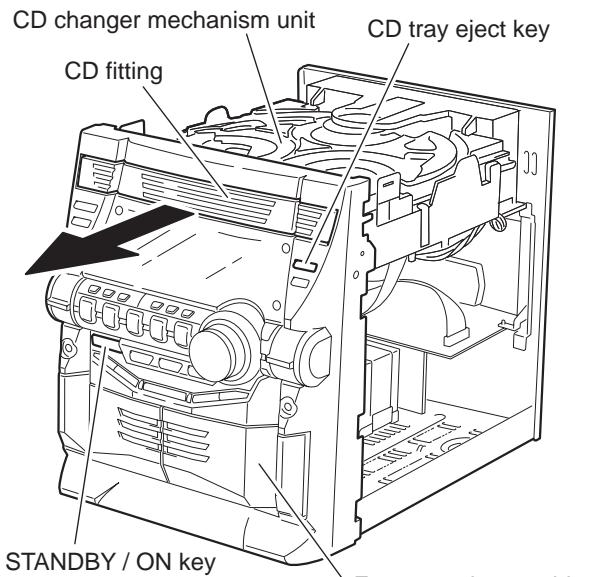

Fig.6
3.1.2 Removing the CD fitting (See Fig.6 to 8)